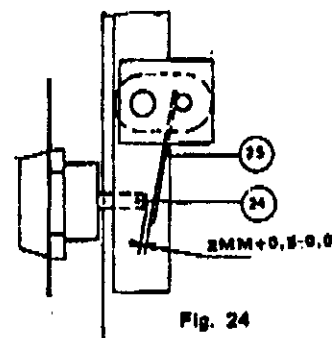

Fig. 24
If the breaker is fitted with a signal system for overload and short circuit tripping with local reset, adjustments should be carried out as previously outlined. In other cases, adjust screw (24) (Fig. 24) for obtaining clearance of $2 \pm 0.5 - 0.0$ mm (0.079 ± 0.158 inch) between strip (25) and the end of the screw (24).